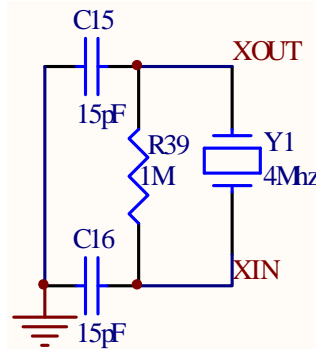

Figure 13
- ◆ Y1, C15 and C16: connects to external Crystal oscillation circuit, as shown in Figure 13.